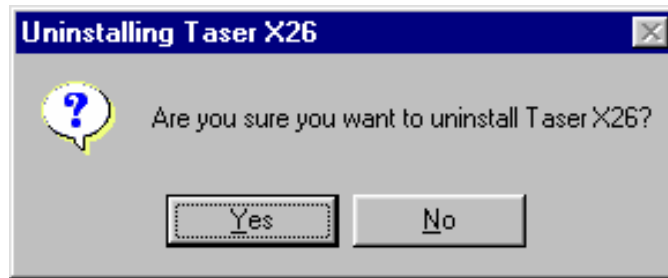

Figure 47
9. Click **Yes** on the **Uninstalling Taser X26** confirmation panel (Figure 47).